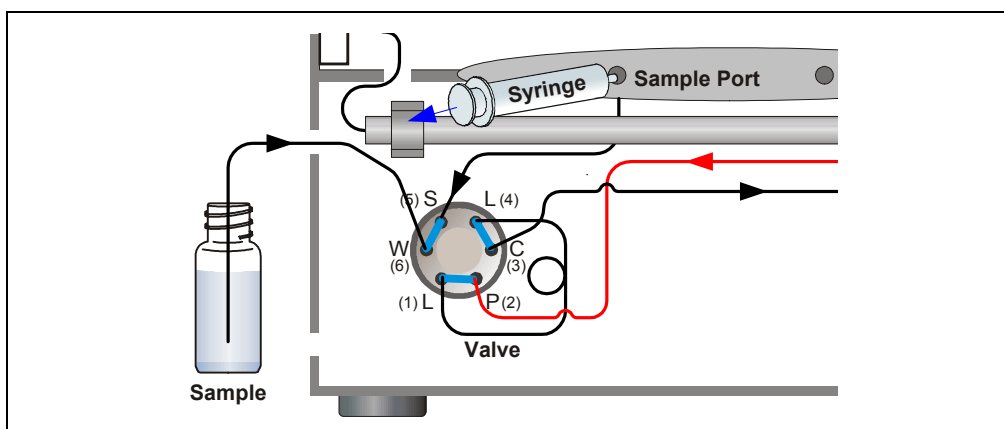

Figure 5-5. Loading Sample with a Vacuum Syringe (Pull Method)
1. Make sure the sample loading port on the DC front door is connected to sample port **S (5)** on the injection valve (see Figure 5-5). If the port is not already connected, see Section 5.3.1 for connection instructions.
2. Disconnect the waste line from port **W (6)** on the injection valve (see Figure 5-5) and attach a shorter line: 25 to 30 cm (10 to 12 in) of PEEK or Teflon® tubing.